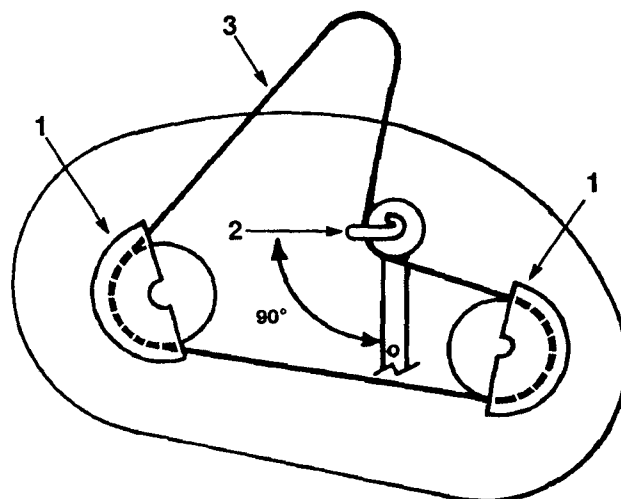

Figure 47
2. Remove the pulley cover mounting screws and pulley covers from both blade pulleys (Fig. 47).
3. Loosen, but do not remove the bolt and nut securing the idler pulley and belt guide (Fig. 47).
2. Position the idler pulley belt guide so it points toward the left, 90° to the idler arm (Fig. 47). Tighten the mounting bolt and lock nut securing the idler pulley and belt guide.
3. Install the left and right pulley covers with the mounting screws (Fig. 47).